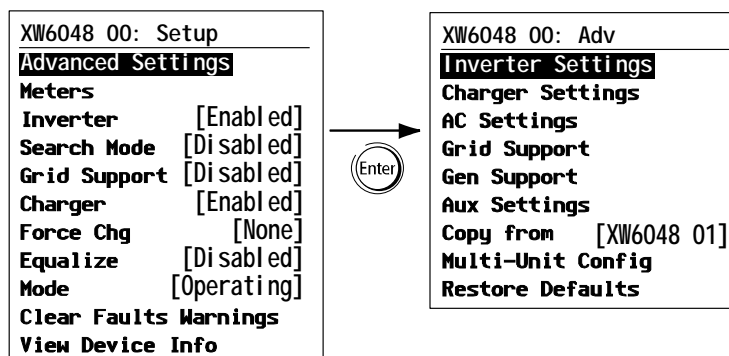

Figure 3-2 Selecting Advanced Settings
- u From the Setup menu, with Basic Settings or Advanced Settings highlighted, press Enter. See Figure 3-2.